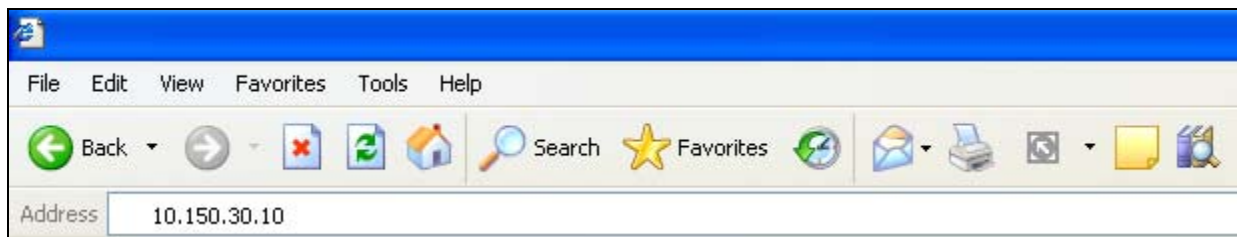

Figure 4-3: Entering the IP Address
8. Open your web browser and type in the IP address of the HD2020. As shown in Figure 4-3 below where the IP address of the unit is 10.150.30.10